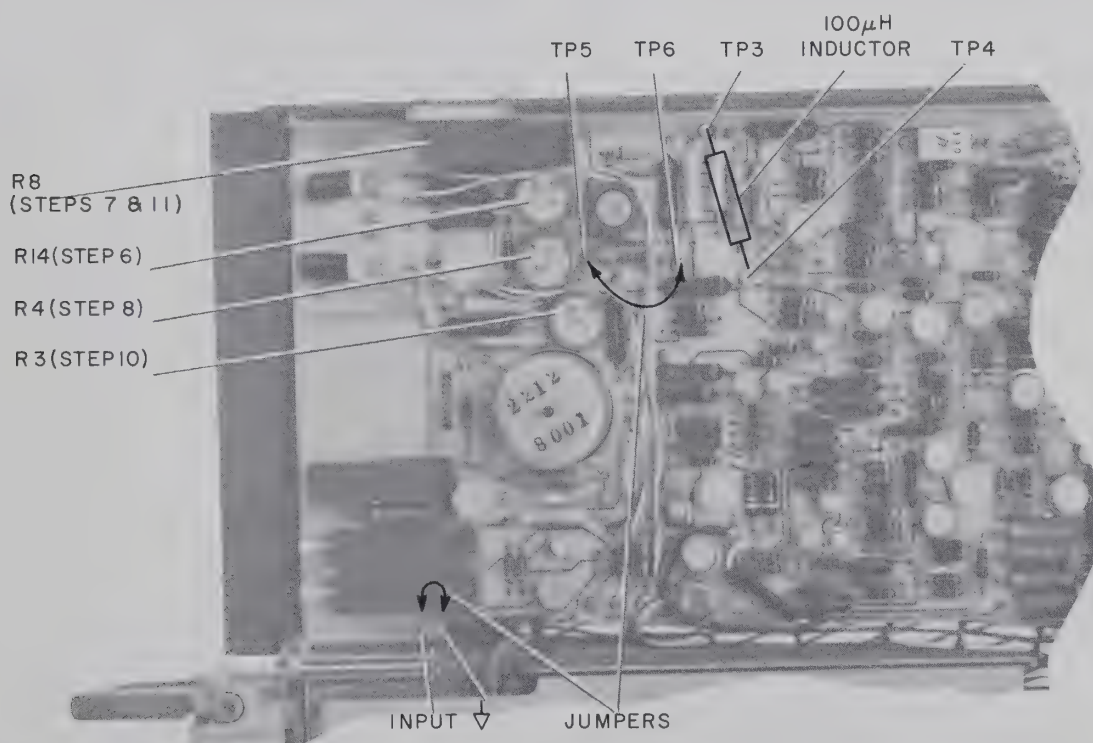

Figure 4-3. Setup for Zeroing A3
1. Connect setup as shown in Figure 4-3 and turn on all equipment.
If reading is greater than specification, but no more than five times specification ( $\pm 50$  counts for 2212A without M2 or  $\pm 125$  counts for 2212A-M2), skip to step 10. If reading is more than five times specification, perform all of steps 5 through 11. See Figure 4-3 for locations.
5. Temporarily connect jumpers and 100  $\mu$ h inductor to the VFC circuit board as indicated in Figure 4-3.